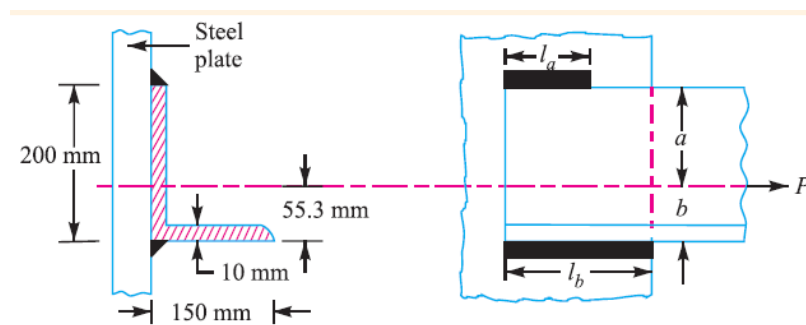

Figure 3
- Q4.** A $200 \times 150 \times 10$ mm angle is to be welded to a steel plate by fillet welds as shown in Fig. 3. If the angle is subjected to a static load of 200 kN, find the length of weld at the top and bottom. The allowable shear stress for static loading may be taken as 75 MPa.